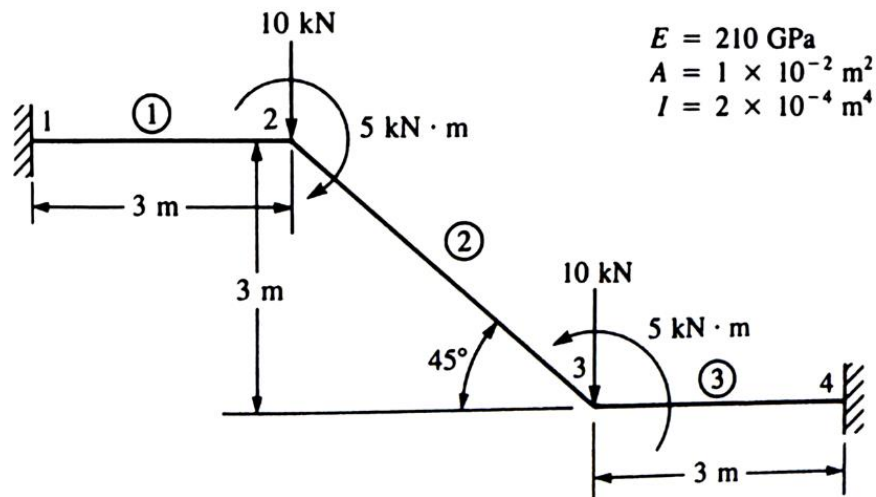

Figure 1 Example Problem 01
Work in groups of three or four and develop a general-purpose Finite Element Program using MATLAB for solving Rigid Plane Frames. Use the FEA code given in the class for solving Pin-jointed Plane Truss problems and modify the same to implement the FEA models used for analysing rigid plane frames. **You must keep the original nomenclature of all variables such as N_nodes, N_element, ncon, etc the same.** Solve for the nodal forces, displacements, and reactions of the members of structures analysed. Use the example plane frame problems shown in Figures 1 to 4 as case studies and solve them using the program developed. Write a report explaining the critical aspects of the development of the code for the numerical implementation and comparing the results of at least one or two of the examples with those obtained by other methods.
9. Solve the Rigid Frames problems given in Figures 1 to 4 at the end, with appropriate boundary conditions, using the MATLAB program generated.